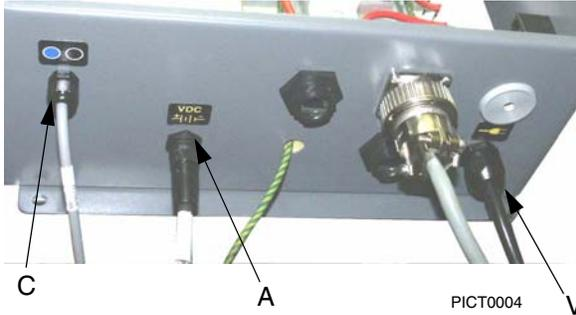

FIG. 7
- Bulkhead strain relief sized for 22.4 mm (0.88 in.) hole that will hold the power supply cord in the EasyKey Display port  (V). See FIG. 7.
1. Connect the appropriate Fluid Panel Power Cable (A) end to the EasyKey Display connector  (V). See FIG. 7.
3. The Fiber Optic Cable (C) is shipped from the factory attached to the EasyKey Display connector. See FIG. 7.